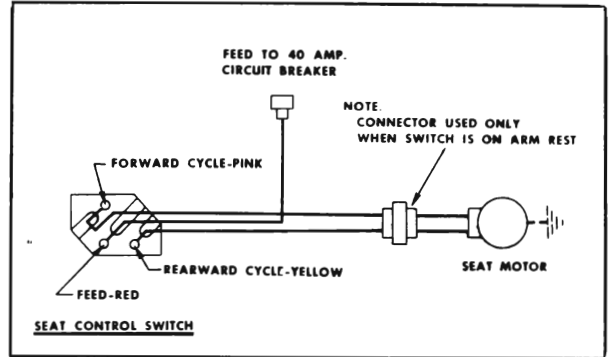

Figure 8-10—Electric Horizontal Seat Diagram
The seat adjusters are actuated by a twelve (12) volt series wound motor located near the center of the seat bottom frame and energized by a control switch installed in the left seat side panel. On the 4729 and 4767 styles the control switch is located in the left front door arm rest. See Figure 8-10 for circuit diagram of electric horizontal seat.